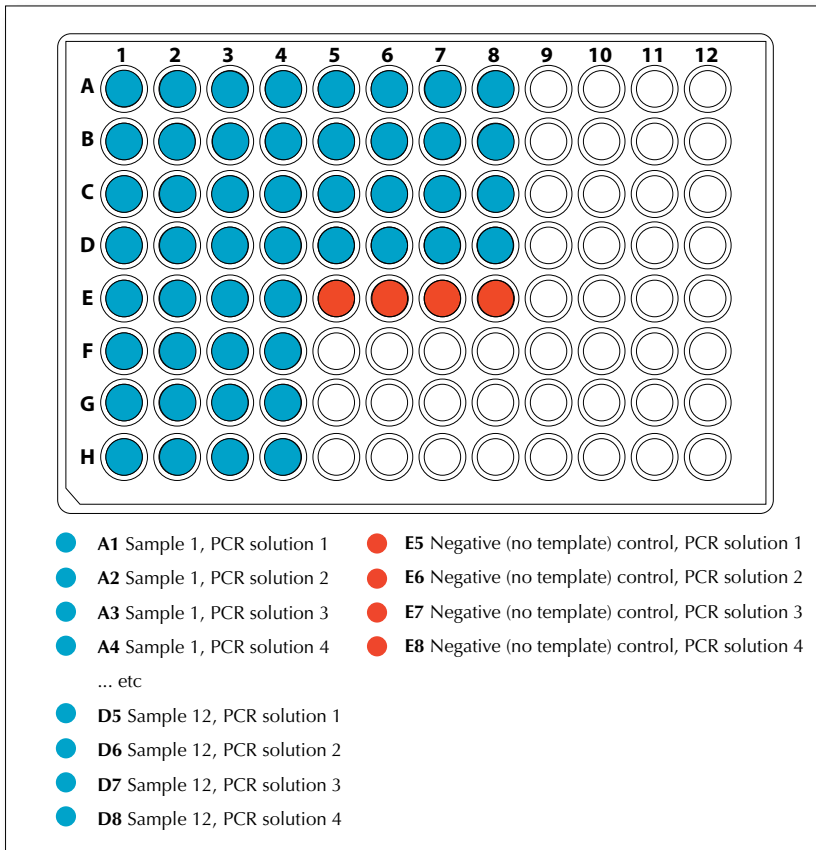

Figure 2. Illustration of a 96-well real-time PCR plate and the sample order necessary for PathoProof[®] Mastitis Complete-12 Kit.
An overview of the PathoProof Mastitis Complete-12 Kit laboratory workflow is presented in Figure 1 (page 12). Figure 2 (page 20) illustrates the sample order in the real-time PCR setup necessary for PathoProof Mastitis Complete-12 Kit. Throughout the procedure, follow the general guidelines detailed in Chapter 5.
3. Prepare a 96-well PCR plate. Always allocate four consecutive wells in one row for the same sample (see Figure 2, page 20). For example, allocate wells A1–A4 for sample 1. Fill the wells of the plate in the direction A → H, i.e. first down, then right, then down. **Add 15 μl of PCR solutions 1–4 into the four wells allocated for each sample.** For example, for sample 1, add PCR solutions 1, 2, 3 and 4 into wells A1, A2, A3 and A4, respectively (see Figure 2). Always add PCR solution 1 to plate columns 1, 5 and 9, PCR Solution 2 to columns 2, 6 and 10, PCR Solution 3 to columns 3, 7 and 11 and PCR Solution 4 to columns 4, 8 and 12. This order must be maintained for correct data analysis when using the Norden Lab Mastitis Studio software. If the PathoProof Amplification Standard Complete-12* is included, add 15 μl of PCR solutions 1–4 into the wells allocated for the PathoProof Amplification Standard Complete-12. Always allocate the last four wells for negative (no template) PCR controls (see Figure 2).
4. **Add 5 µl of the eluate from the DNA extraction protocol (Section 6.1) into the four wells allocated for each sample.** If the PathoProof Amplification Standard Complete-12 is included, add 5 µl of the standard into four consecutive wells. In the last four wells allocated for negative (no template) controls, add 5 µl of sterile water or the Elution Buffer (AE) (Figure 2).